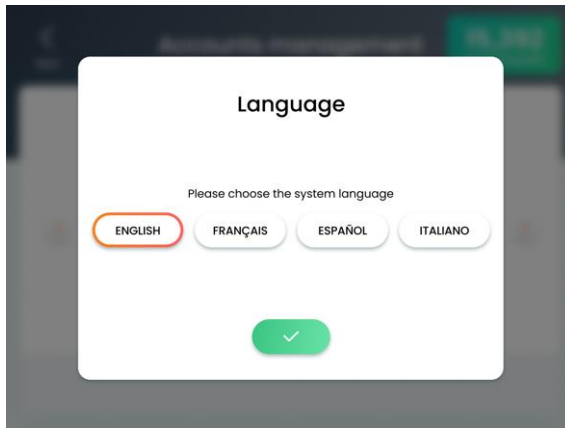

Figure 6-16. Language Screen
2. From the Settings screen, press the **Language** icon, as shown in Table 6-1; the Language screen appears, as shown in Figure 6-16.